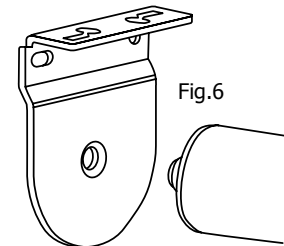

Fig.6
**2.** With the fabric rolled around the tubes, offer the idle end (the end with the pin to the idle end bracket) (Fig.6)